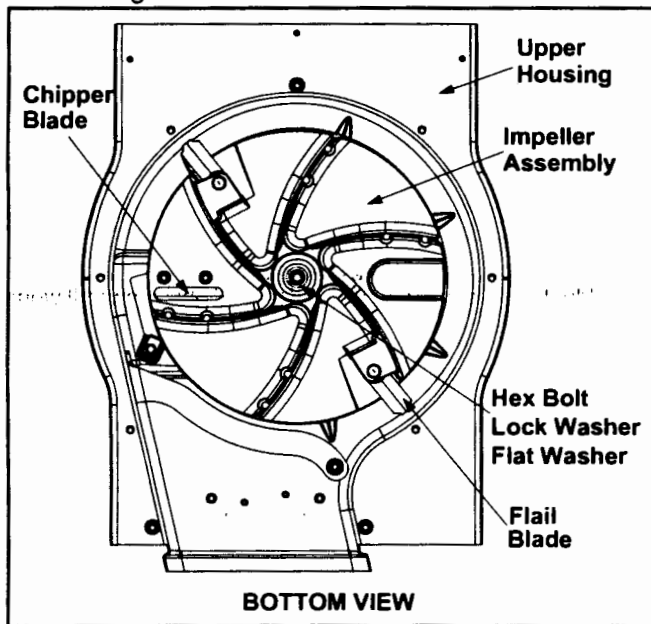

Figure 15
- Remove the hex bolt, lock washer, and flat washer that secure the impeller assembly to the crankshaft. See Figure 15.